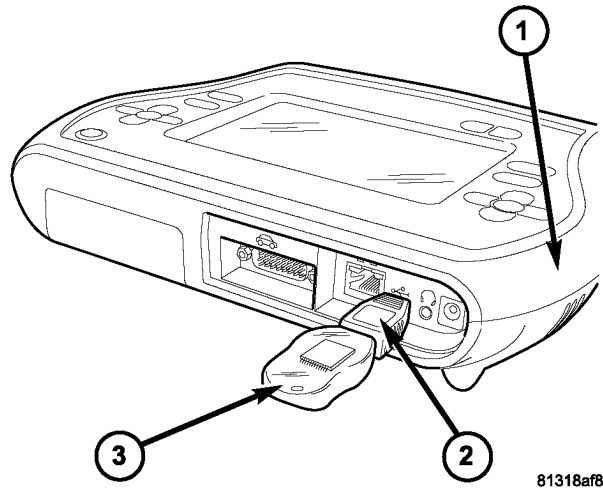

Fig. 1 USB KEY, GENDER CHANGER, AND StarSCAN TOOL
10. With the StarSCAN® powered OFF, connect the USB Key and Gender Changer to the StarSCAN® USB port (Fig. 1).